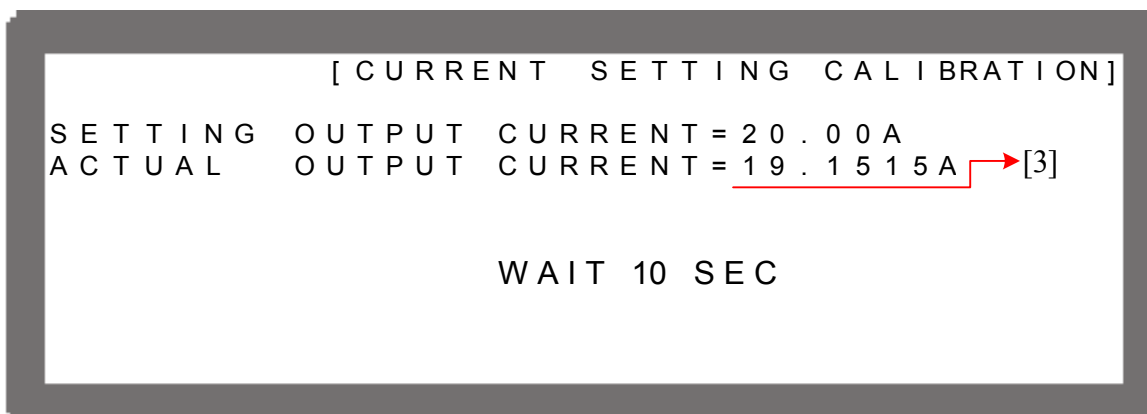

Figure 3-114
9. Press "" will perform 20A calibration. The system will set the output current to 20.00A automatically and appear second reading screen. Once the reading is done, the cursor will stop at position [3] as Figure 3-114 shows. Input the current (4 digits after decimal point) read by Current Shunt (DVM) and press "" to confirm.